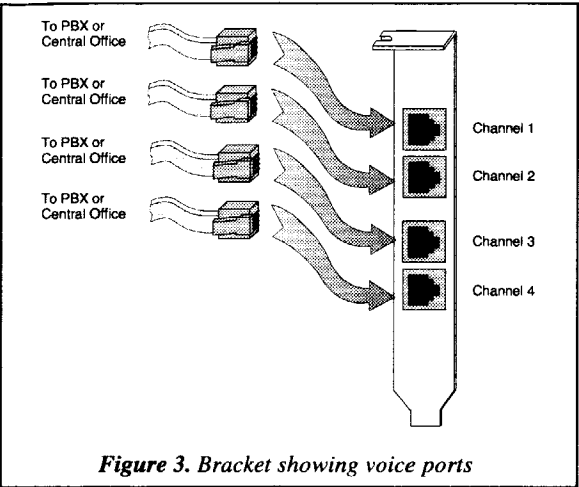

Figure 3. Bracket showing voice ports
- The D/41H and D/21H support a single analog voice channel per RJ-11 jack (channel 1 corresponds to J1, channel 2 corresponds to J2, and so on). Use RJ-11 connectors and phone cable to connect each voice channel jack to a PBX or the CO (see Figure 3).